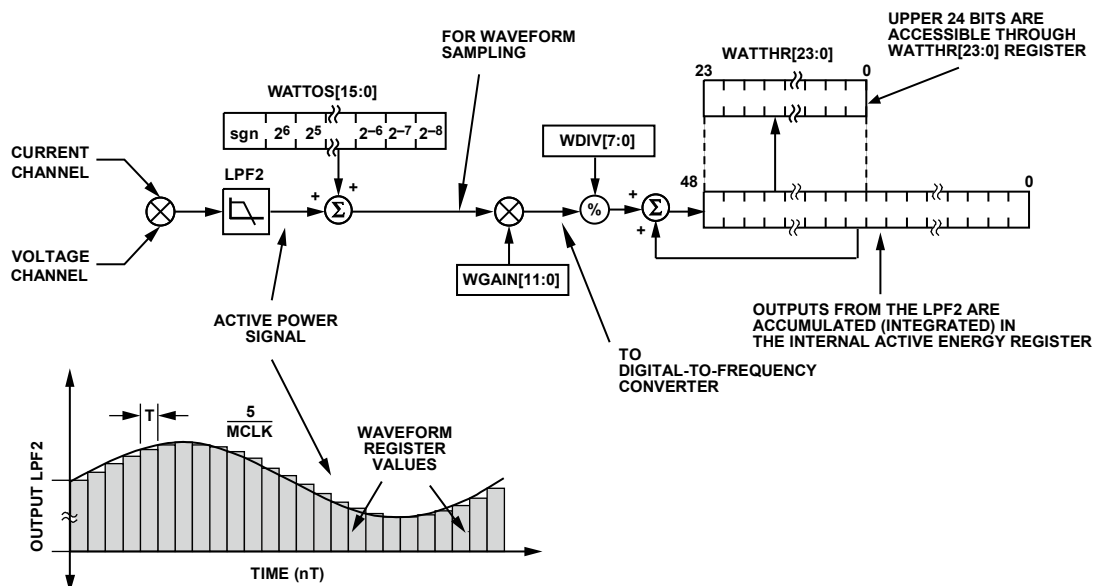

Figure 66. Active Energy Calculation
Figure 66 shows the signal processing chain for the active power calculation in the ADE5166/ADE5169/ADE5566/ADE5569. As explained previously, the active power is calculated by filtering the output of the multiplier with a low-pass filter. Note that, when reading the waveform samples from the output of LPF2, the gain of the active energy can be adjusted by using the multiplier and writing a twos complement, 12-bit word to the watt gain register (WGAIN, Address 0x1D[11:0]). Equation 10 shows how the gain adjustment is related to the contents of the watt gain register.
The ADE5166/ADE5169/ADE5566/ADE5569 also incorporate an active power offset register (WATTOS, Address 0x20[15:0]). It is a signed, twos complement, 16-bit register that can be used to remove offsets in the active power calculation (see Figure 66). An offset can exist in the power calculation due to crosstalk between channels on the PCB or in the IC itself. The offset calibration allows the contents of the active power register to be maintained at 0 when no power is being consumed.
The discrete time sample period (T) for the accumulation register in the ADE5166/ADE5169/ADE5566/ADE5569 is 1.22 μ s (5/MCLK). In addition to calculating the energy, this integration removes any sinusoidal components that may be in the active power signal. Figure 66 shows this discrete time integration or
The output of the multiplier is divided by the value in the WDIV register (Address 0x24). If the value in the WDIV register is equal to 0, the internal active energy register is divided by 1. WDIV is an 8-bit, unsigned register. After dividing by WDIV, the active energy is accumulated in a 49-bit internal energy accumulation register. The upper 24 bits of this register are accessible through a read to the active energy register (WATTHR, Address 0x01[23:0]). A read to the RWATTHR register (Address 0x02) returns the contents of the WATTHR register, and the upper 24 bits of the internal register are cleared. As shown in Figure 66, the active power signal is accumulated in an internal 49-bit, signed register. The active power signal can be read from the waveform register by setting the WAVMODE register (Address 0x0D) and setting the WFSM bit (Bit 5) in the Interrupt Enable 3 SFR (MIRQENH, Address 0xDB). Like the current and voltage channel waveform sampling modes, the waveform data is available at sample rates of 25.6 kSPS, 12.8 kSPS, 6.4 kSPS, and 3.2 kSPS.